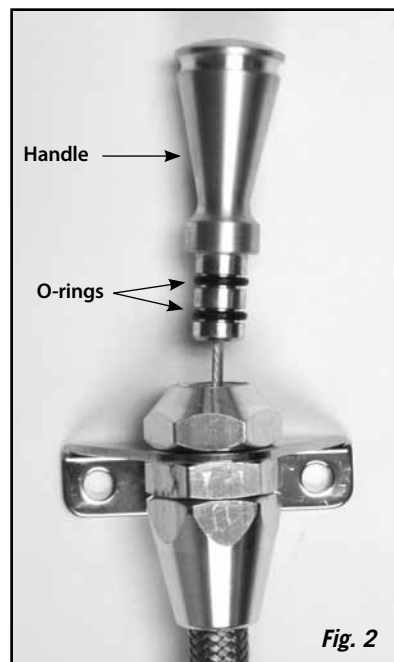
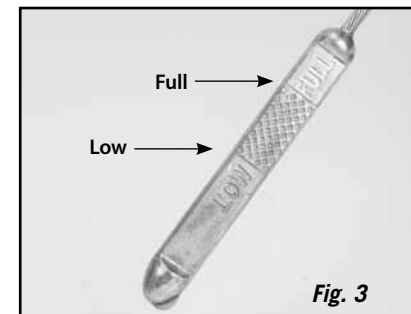

Fig. 2
Fig. 3
Step 7: Make sure the dipstick tube assembly is not touching the exhaust at any point. Lightly lubricate the o-rings on the dipstick handle with clean transmission fluid. **Fig. 2** Using the supplied funnel adapter and an appropriate funnel (not supplied), fill the transmission to the FULL mark on the inner measuring cable. **Fig. 3**